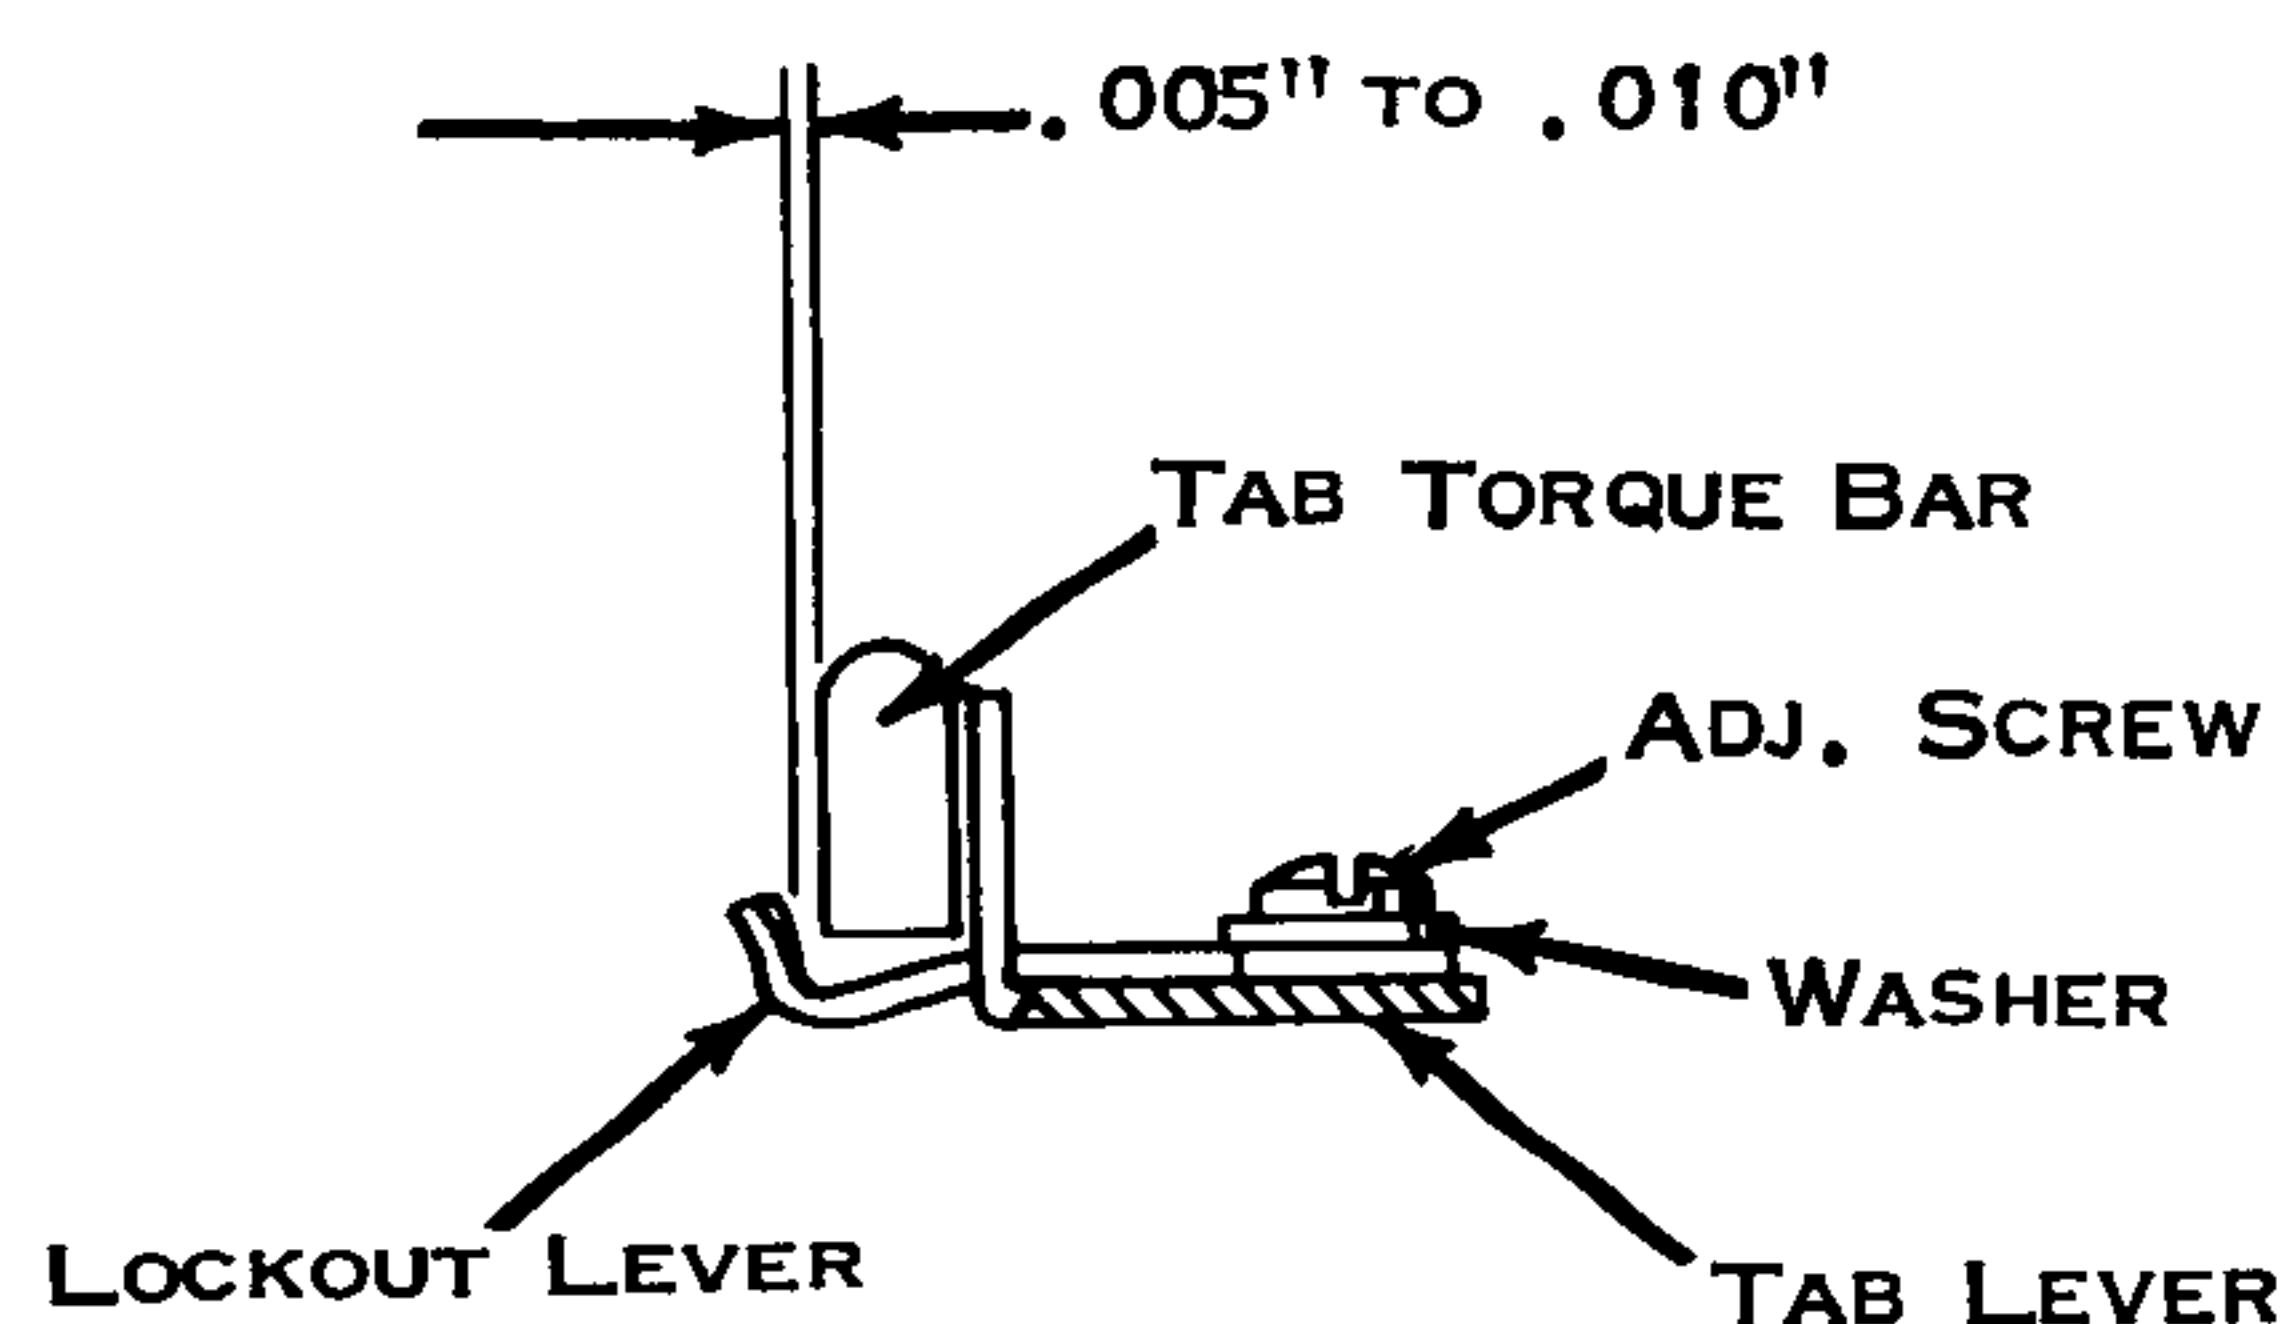

Figure 171. Lockout Lever
8. Lockout Lever (Fig. 171) - Position to clear the torque bar by .005" to .010" with the torque bar at rest.